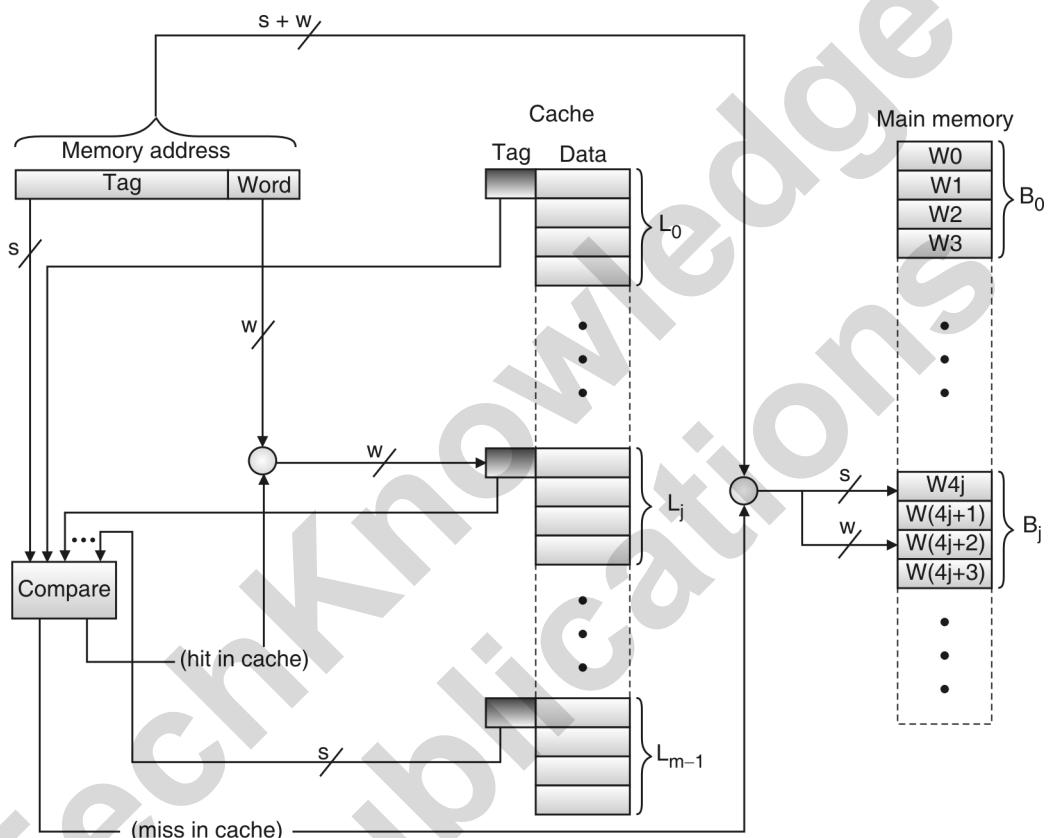

Fig. 11.9.2
- The organization of Fully Associative Cache mapping is shown in the Fig. 11.9.2.